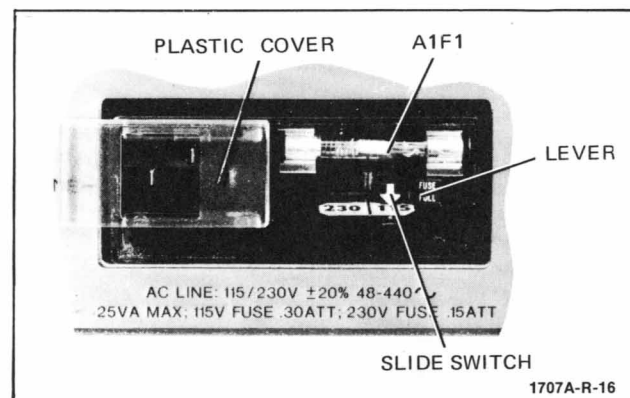

Figure 2-1. Rear Panel Power Module
2-9. A slide switch inside the rear panel power module (figure 2-1), on the rear panel, determines 115- or 230-volt operation. To check or change the position of this slide switch, proceed as follows:
b. Move plastic cover to left (figure 2-1).
d. Check to see that slide switch (figure 2-1) is to right for 115V operation.